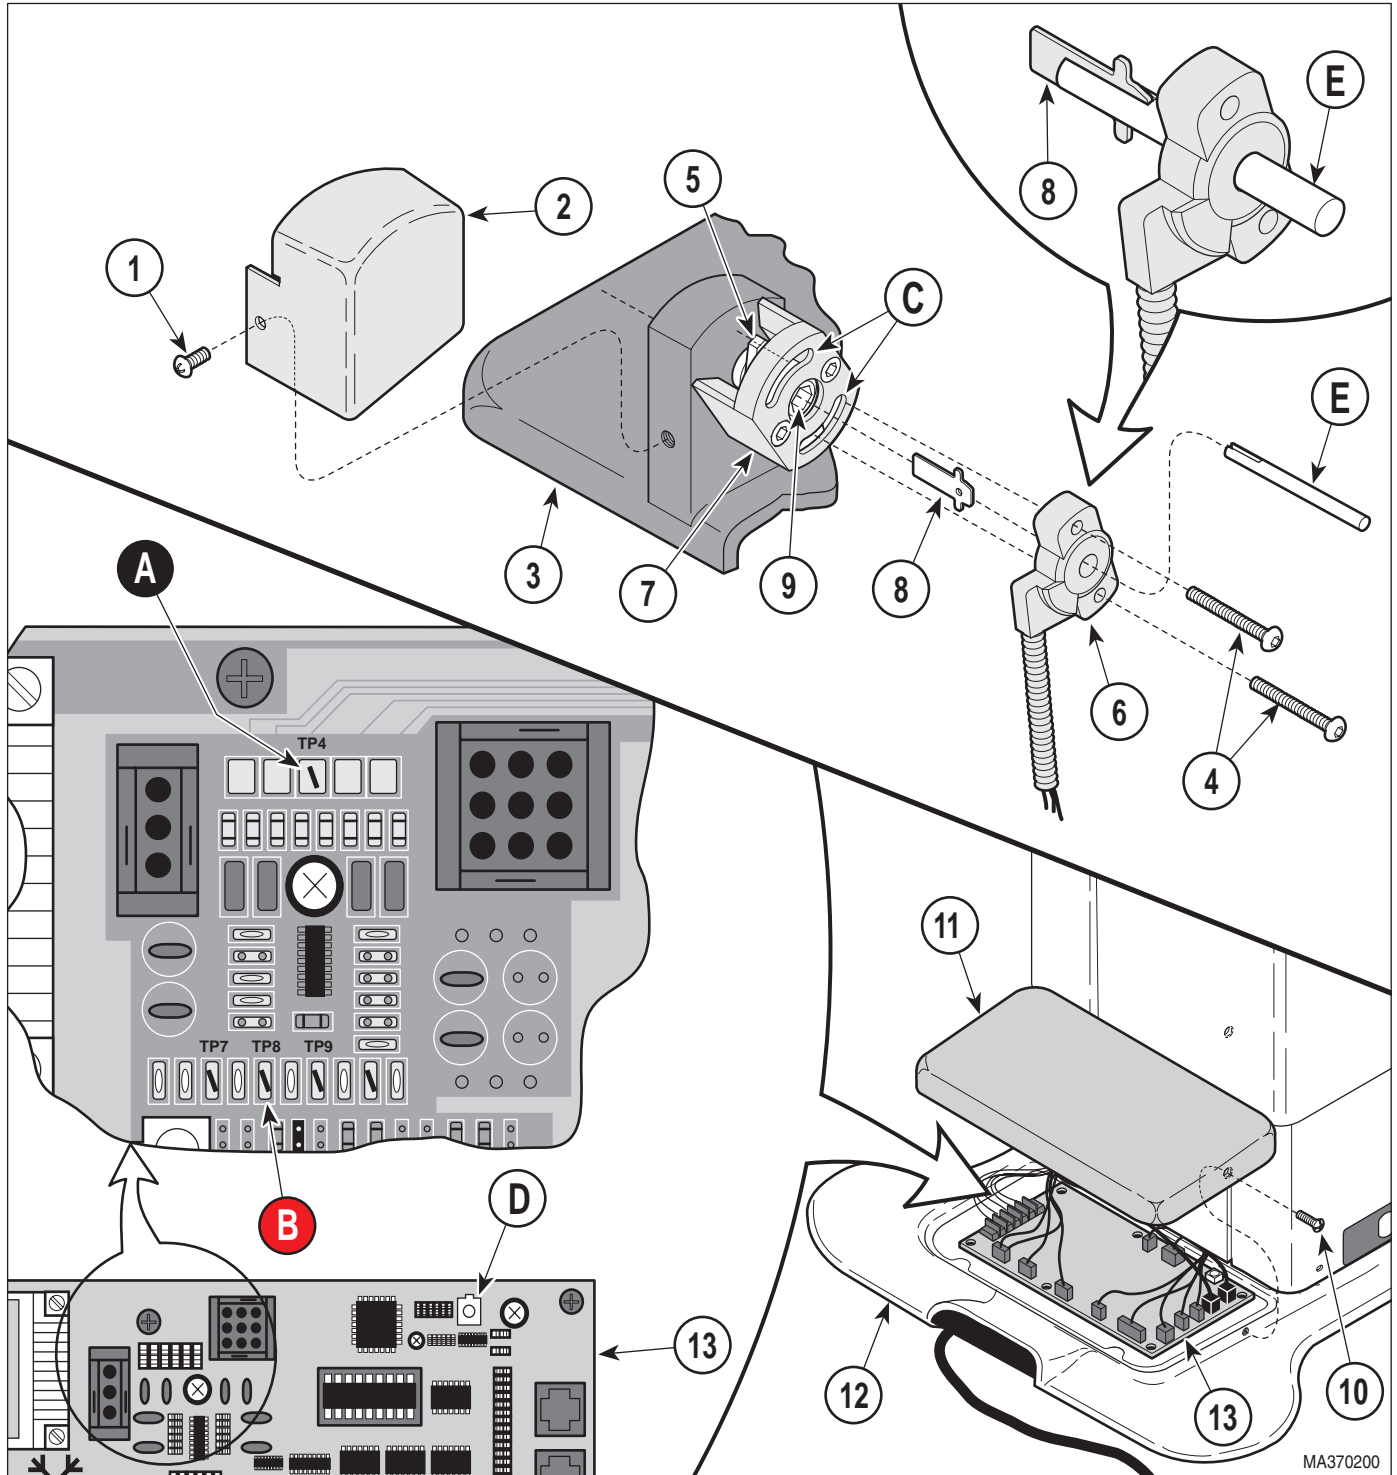

Figure 4-52. Tilt Position Sensor Removal / Installation / Adjustment
- (3) Lower middle outer shroud assembly (4) down out of way.
- (4) Remove two nuts (5) and sensor wire cover (6) from connection cover (7).
- (5) Cut any cable ties (8) securing tilt sensor harness (9) to other harnesses.
- (6) Disconnect tilt sensor harness (9) from harness (10).
- (7) Raise TILT UP function all the way up.
- (8) Using an offset phillips screwdriver, remove two screws (11) and tilt cover (12) from seat weldment (13).
- (9) Lower TILT DOWN function all the way down.
- (10) Raise BACK UP function all the way up.
- (11) Unplug table power cord from outlet receptacle.
- (12) Remove one screw (1, Figure 4-52) and tilt sensor cover (2) from column adapter weldment (3).
(1) Remove two screws (10, Figure 4-52) and PC board cover (11) from base casting (12).
(2) Connect negative (black) lead of multimeter to TP4 (A, Figure 4-52) and positive (red) lead of multimeter to TP8 (B) of PC control board (13).
(3) Set multimeter to VDC setting. Then set the voltage range of the multimeter to the 0-20 VDC range.
(5) Connect tilt sensor harness (9) to harness (10).
(6) Secure tilt sensor harness (9) to other harnesses with cable tie (8).
(7) Install sensor wire cover (6) on connection cover (7) and secure with two nuts (5), making sure harnesses (9 and 10) are tucked into the sensor wire cover.
(8) Install tabs (A) of R.H. and L.H. outer shrouds (2) in slots (B) column adapter weldment (3) and secure with four screws (1), making sure middle outer shroud assembly (4) is captured by R.H. and L.H. outer shrouds (2).
(9) Plug table power cord into outlet receptacle.
(10) Lower TILT DOWN function all the way DOWN.
(11) Slide sensor holder tool (E, Figure 4-52) thru the center hole of tilt position sensor (6).
(12) Insert 5/16" hex drive (8) into slot of sensor holder tool (E).